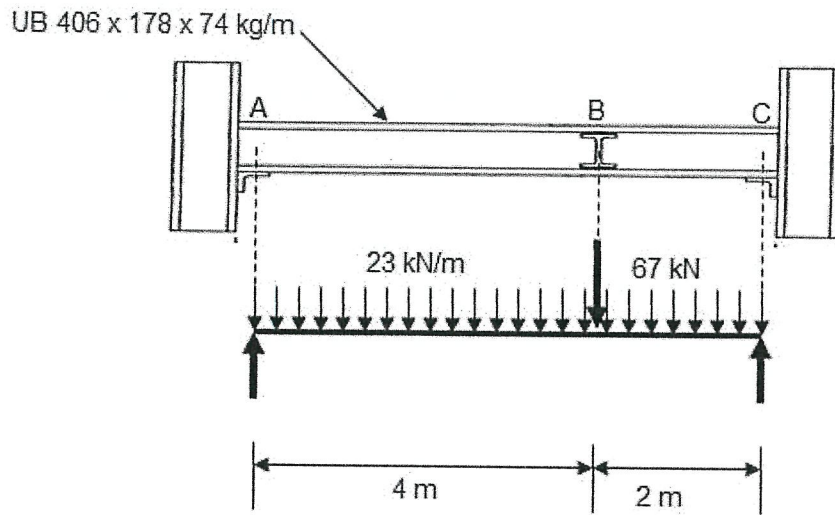

Figure Q5(b)
- Q5** (a) Name the **four (4)** classes of steel section according to BS 5950. (4 marks)
- (b) **Figure Q5(b)** shows a main beam AC of size UB 406 x 178 x 74 kg/m which is simply supported on angles between two columns and carries a secondary beam at B. The design loading on the main beam AC is as shown.